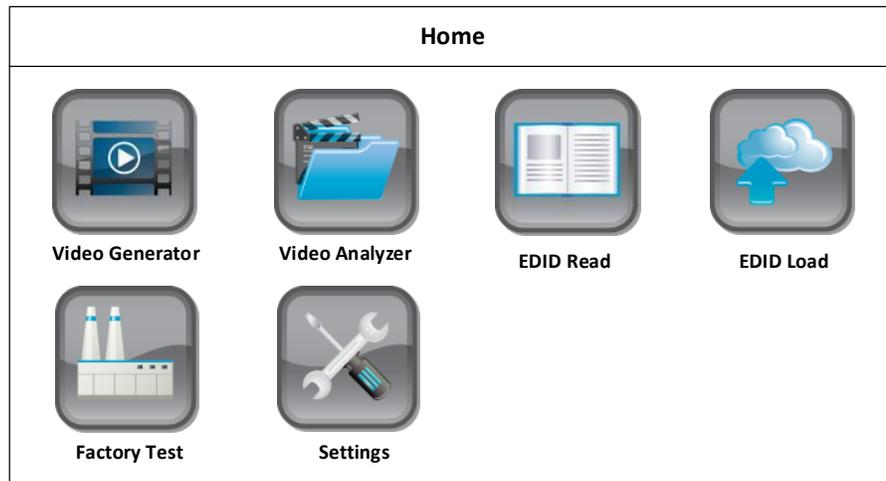
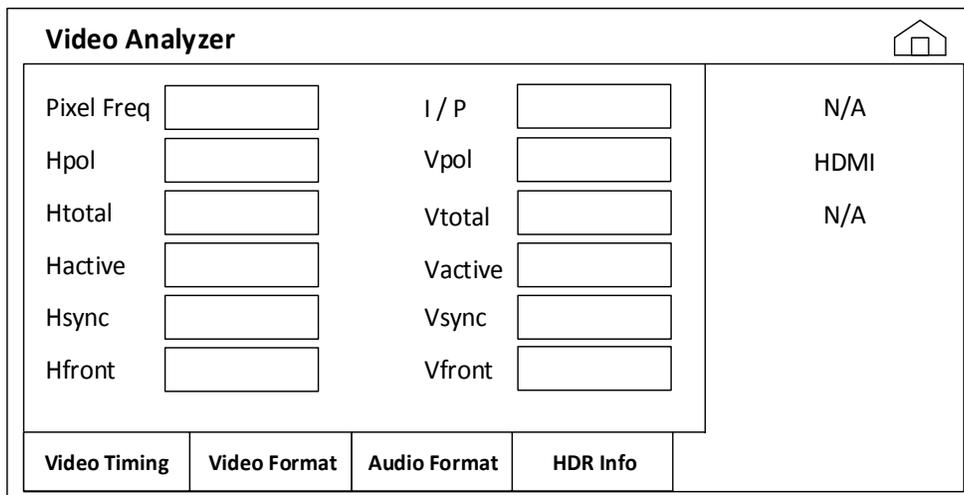

Figure 1.5. LCD Touch Screen Main Window
Figure 2.6. Video Analyzer Window
Figure 1.5 shows the LCD touch screen of the SL-881 in standard test mode under default factory configuration.
3. On the LCD touch screen (Figure 1.5), choose Video Generator. The Video Generator window appears (Figure 2.5).
3. On the LCD touch screen (Figure 1.5), choose Video Analyzer. The Video Analyzer window appears (Figure 2.6).